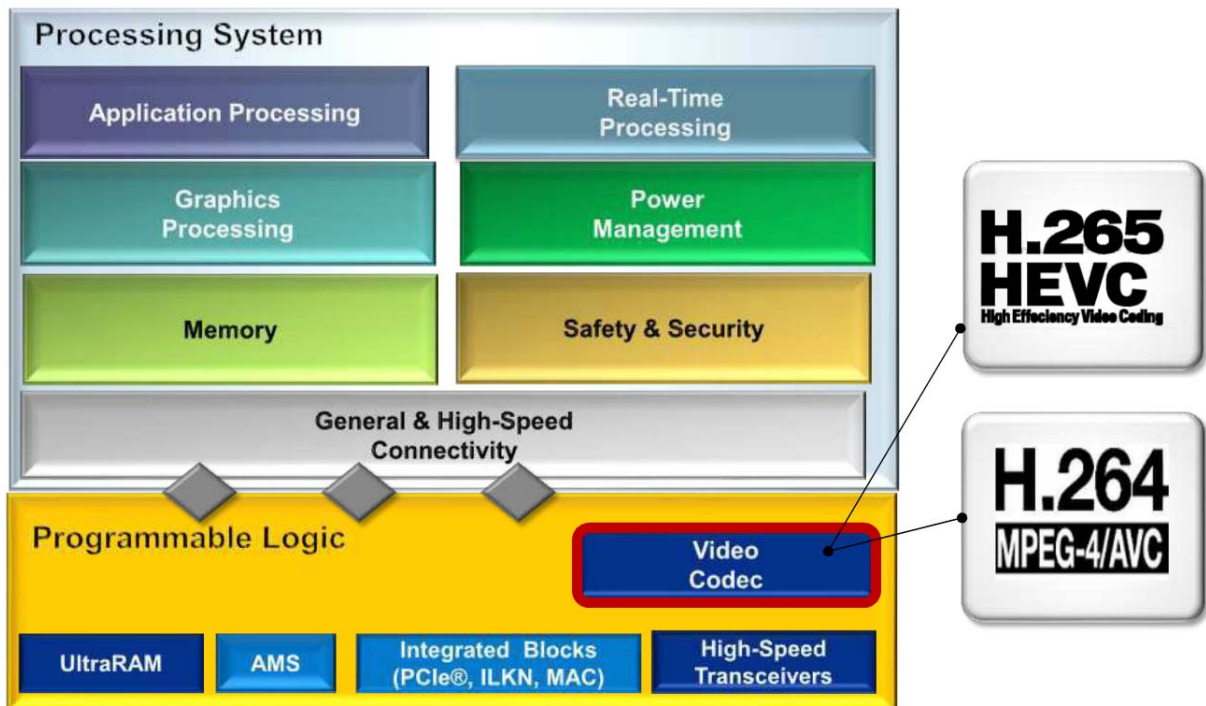

Figure 9-17: Video Codec Unit's Location in the Zynq UltraScale+ MPSoC Device
The Video Codec Unit (VCU) is included in the Programmable Logic (PL) in some variants of the Zynq UltraScale+ MPSoC device. The VCU is especially suited in demanding video applications where video data needs to be coded and decoded quickly. It supports simultaneous decoding and encoding of H.264 and H.265 formats. Figure 9-17 provides a high-level view of the VCU's location in the system.